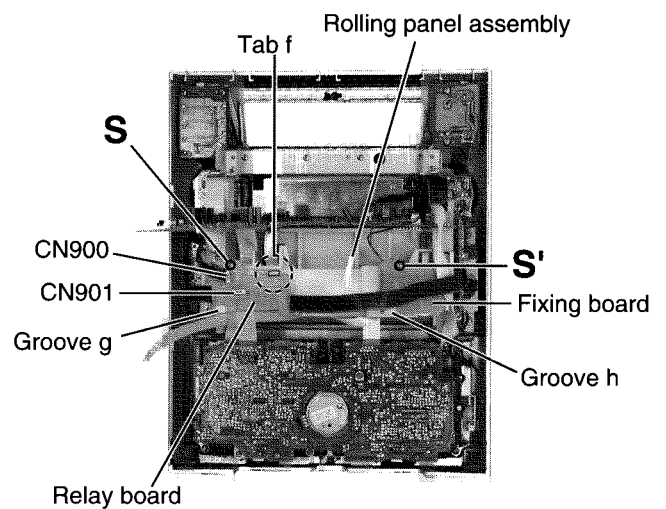

Fig.20
■ Removing the relay board and fixing board (See Fig.20)